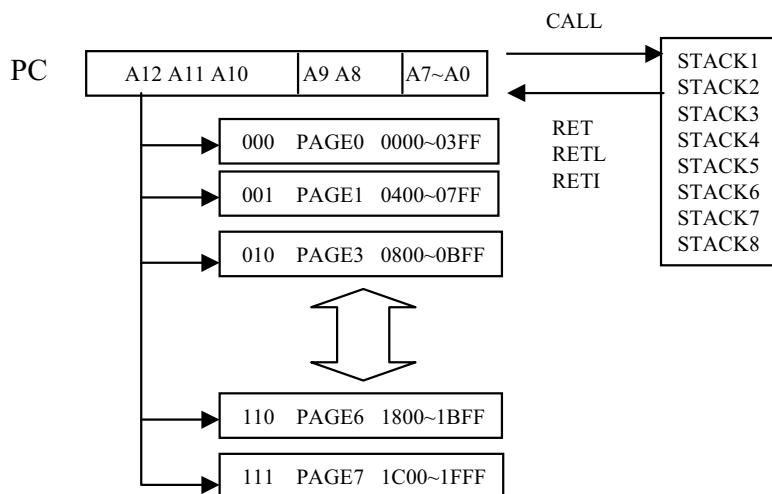

Fig.3 Program counter organization
- \* The structure is depicted in Fig.3